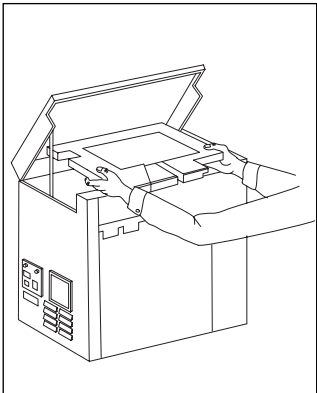

Figure 9.23
- 2. Open left side of the PPC lid and remove clear plastic interior cover (Figure 9.23).